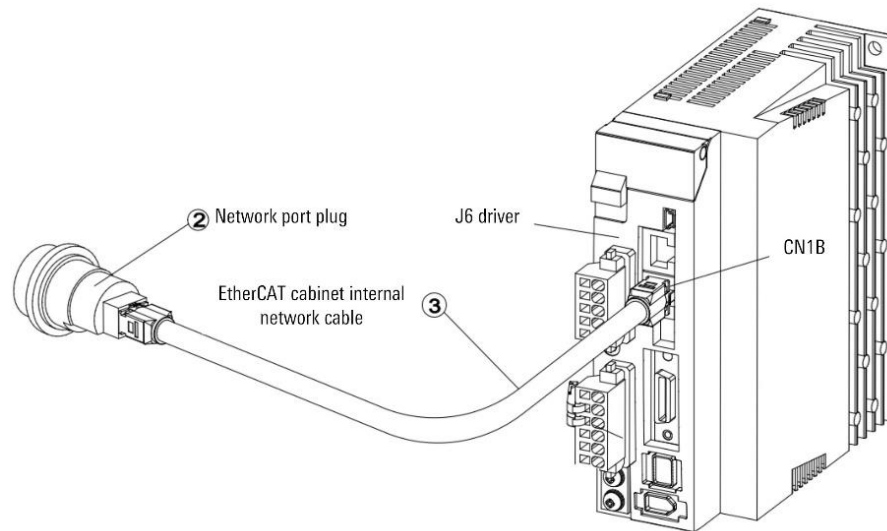

Figure 15-12 Diagram of the CN1B interface connecting the J6 driver
Step3. Connect one end of the EtherCAT cabinet network cable to the network port plug, and the other end to the CN1B interface of the J6 driver. Arrange the cables in the cabinet reasonably, refer to Figure 15-12.